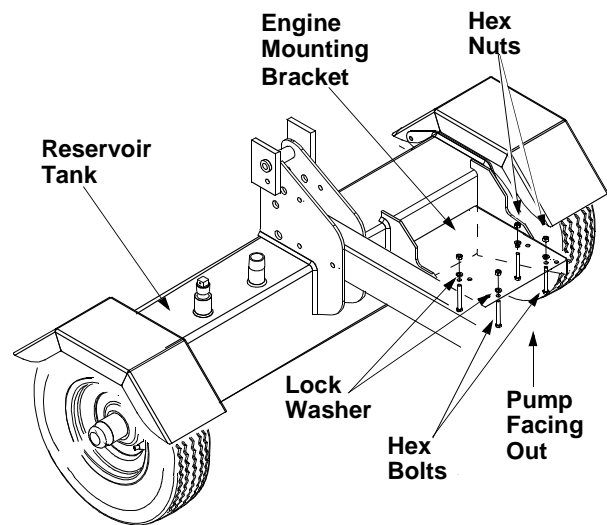

Figure 8
- Place the engine and pump assembly in position on the engine mounting bracket with the pump facing out. See Figure 8.